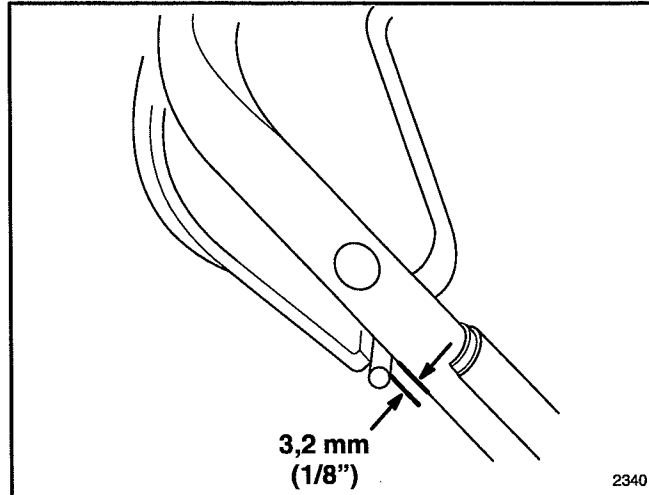

Figure 21
2. CHECK ADJUSTMENT (Fig. 21) – Move the blade control bar toward the handle until the slack in the wire is removed. The gap between the blade control bar and the handle must be 1/8".